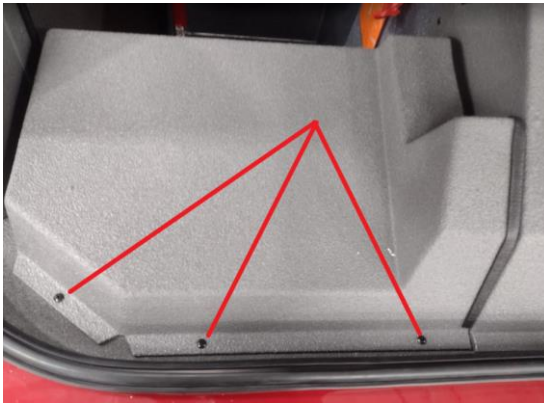

Figure 4.1
4. Remove the officer' side dash panel to gain access to the RCM (restraint control module) mounting location. Dash is secured with 3 screws near the windshield and 2 screws below the glove box compartment. Remove 5 screws and set dash cover aside. *See Figure 4.1*